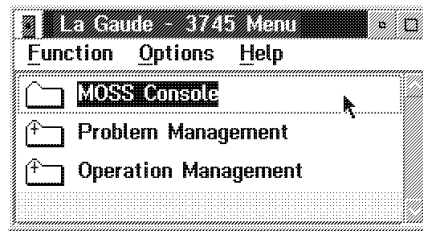

Figure 5-1. 3745 Menu
- c. ____ Double click on **MOSS Console** (see Figure 5-1)